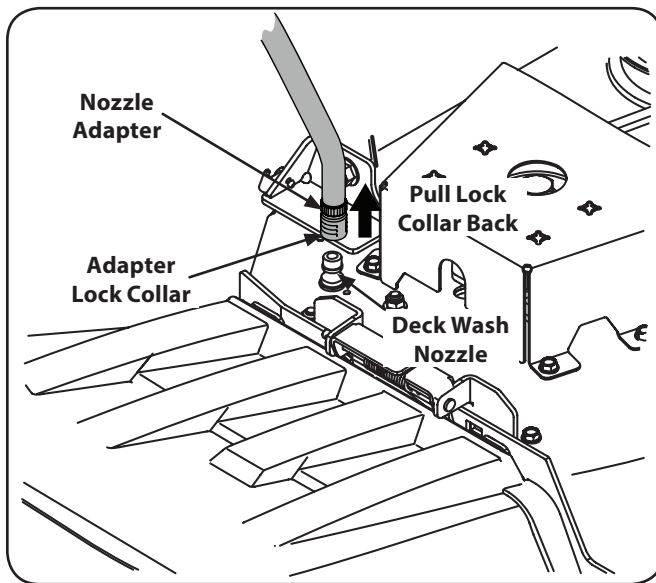

Figure 6-2
3. Pull back the lock collar of the nozzle adapter and push the adapter onto one of the deck wash nozzles at either end of the mower deck. Release the lock collar to lock the adapter on the nozzle. See Figure 6-2.